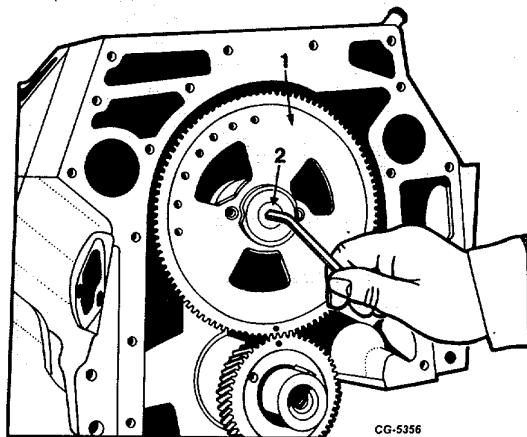

Fig. 63
a. Remove camshaft allen screw, Fig.63.